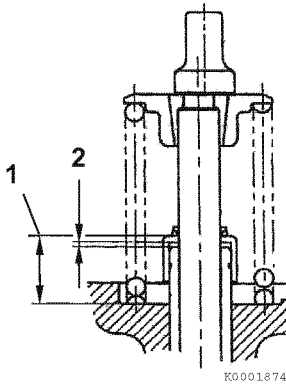

Figure 6-31
2. Measure the distance (1, **Figure 6-31**) from the cylinder head to valve stem seal to ensure proper clearance (2, **Figure 6-31**) between the guide and the seal. See *Valve Stem Seal Projection specification on page 6-7*.